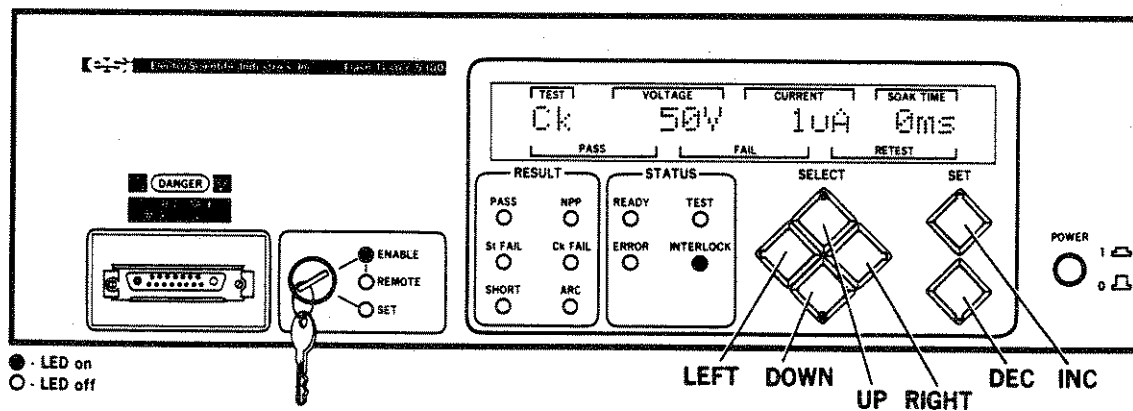

Figure 3-15. Check Test Conditions Display
NOTE: The names UP, DOWN, LEFT, RIGHT, INC (increment), and DEC (decrement) will be used for the six front-panel pushbuttons, as shown in Figure 3-15.
STEP 1. Press any of the pushbuttons whose LEDs are not illuminated and observe that there is no effect. Press the DOWN pushbutton, whose LED is illuminated. The St at the left end of the display should change to Ck. The rest of the display will indicate the Check test conditions. An example of this is shown in Figure 3-15. For more information, refer to Check Test Screen, Section 3.4.3.2.